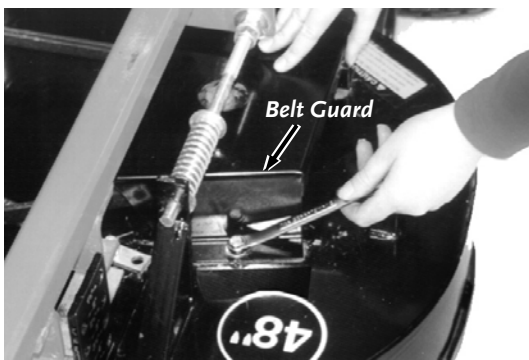

Figure 21
- Remove the Belt Guards from the Deck (**Figure 21**).